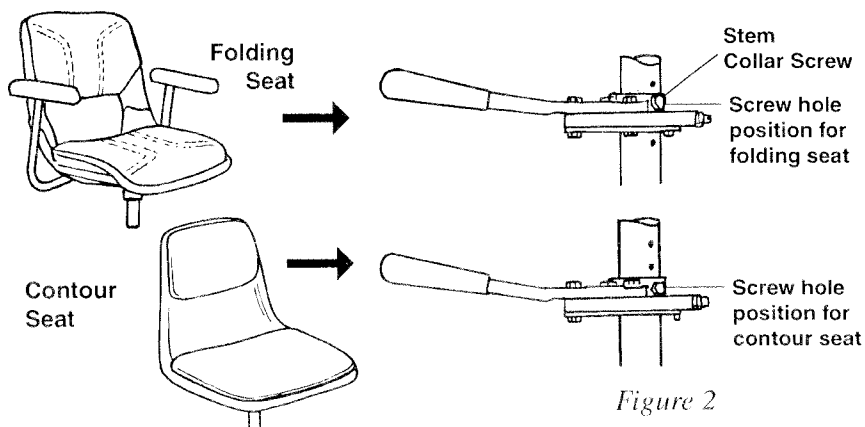

Figure 2
*It is recommended that the seat lock be installed in the **second hole** positioned from the seat on a **folding seat** and the **third hole** on a **contour seat** (Figure 2).*